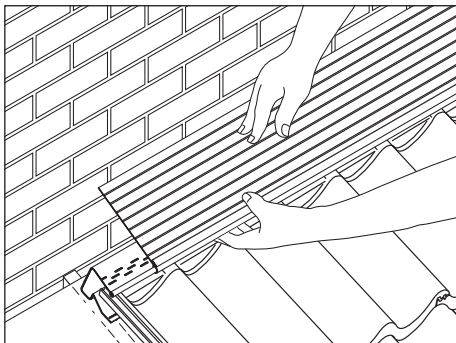

Fig. 7 – Clip lead support strips to batten section
- 9 Dress Code 4 lead or similar flashing material, over lead support strip and fit front edge into integrated retaining channel on front edge support (Fig. 7).